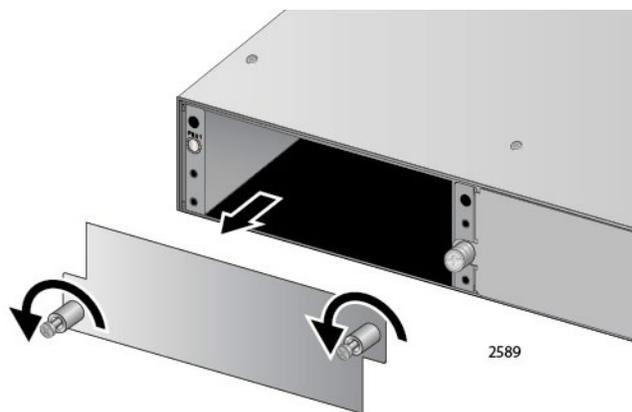

Figure 18. Loosen Power Supply Captive Screws
2. Loosen the captive screw on the blank cover panel of the power supply slot blank cover and remove the cover. See Figure 18.